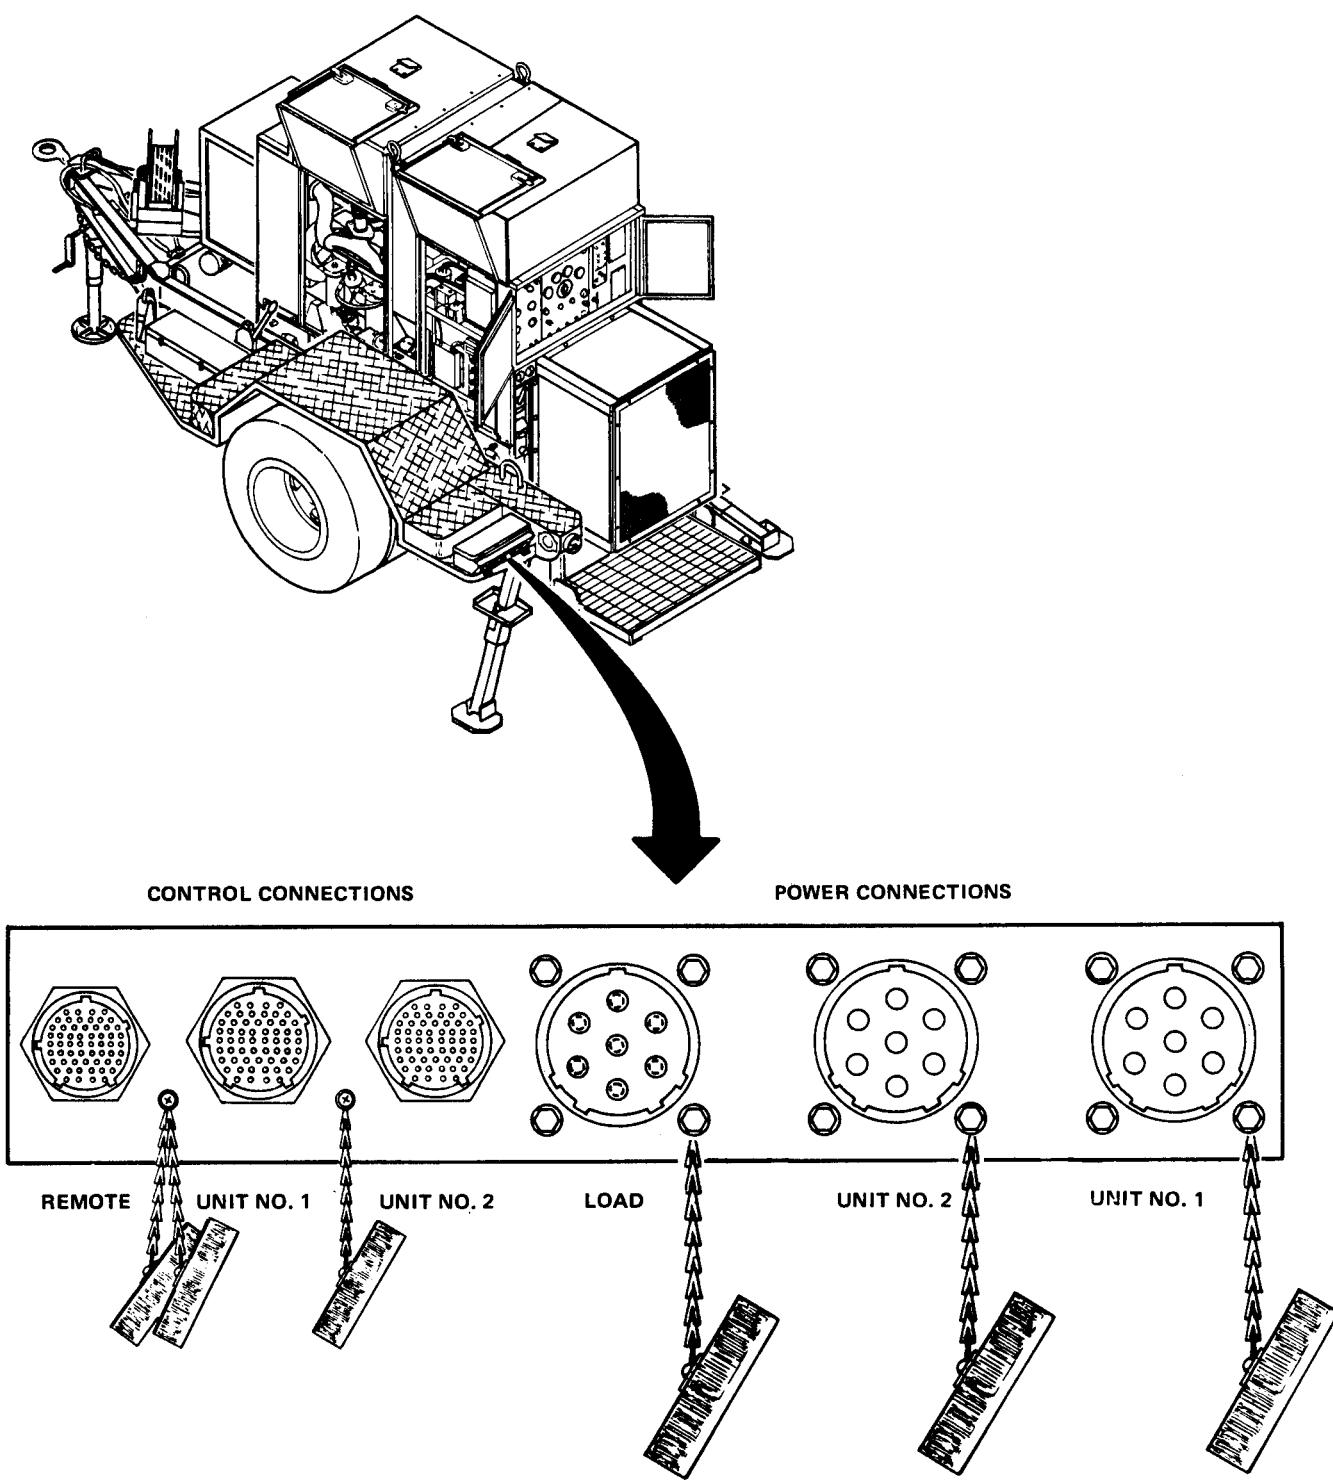

Figure 2-1. Junction Box Connections
(1) Figure 2-1 shows the location of power and control connections for the junction box.